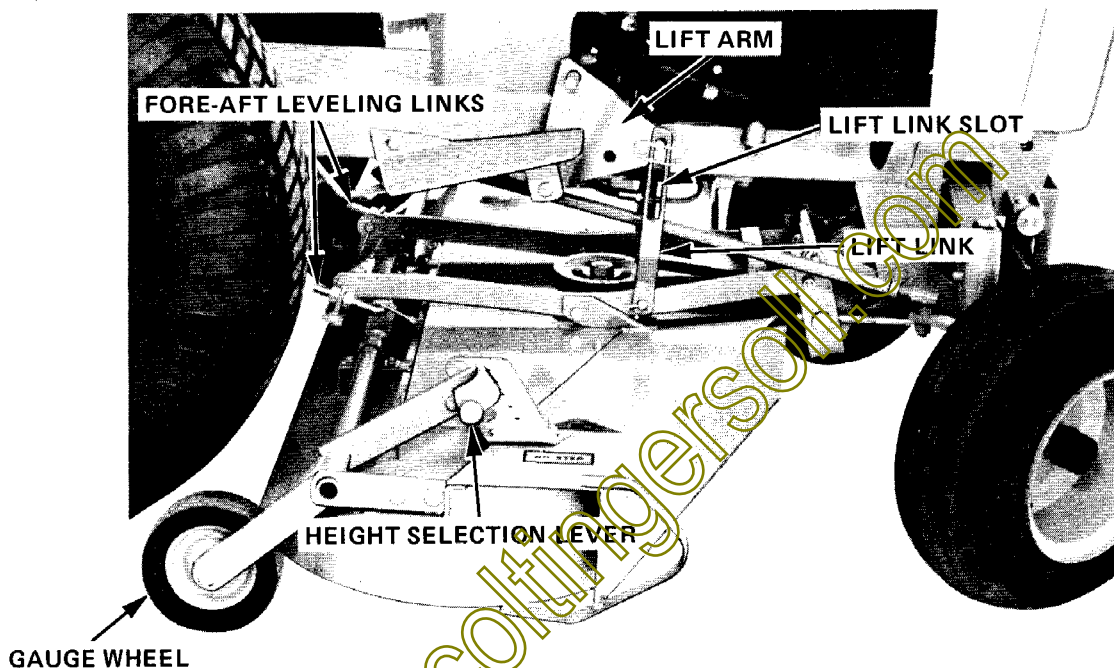

FIGURE 4 ADJUSTMENTS
1. Height Selection Lever. See Figure 4.
2. Gauge Wheels. See Figure 4.